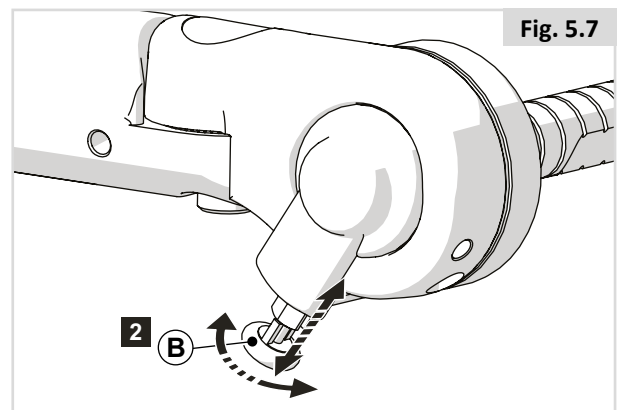

Fig. 5.7
Reclining multi adjustable flip back armrest (Fig 5.7)
2. Lock the armrest flip up position by turning the lock (B) inwards. (Fig. 5.7)